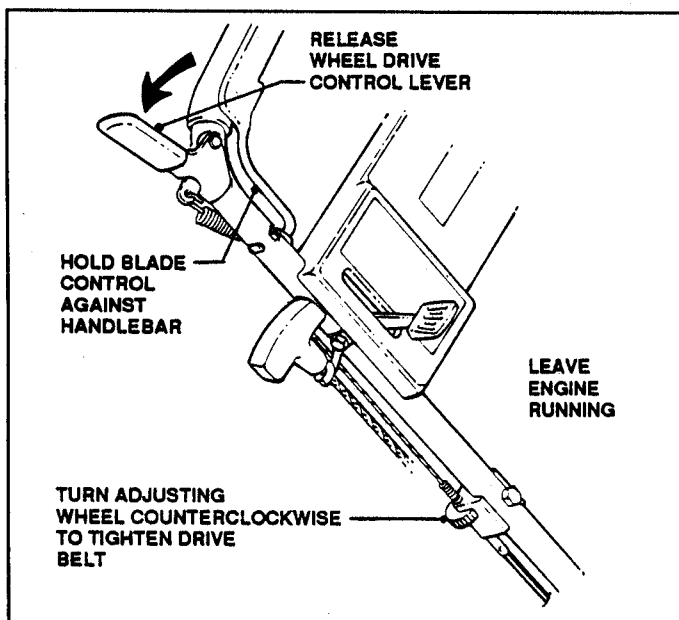

FIGURE 15
4. Reach down with right hand and turn Drive Belt Tension Adjusting Wheel counterclockwise two (2) complete turns. See Figure 15.